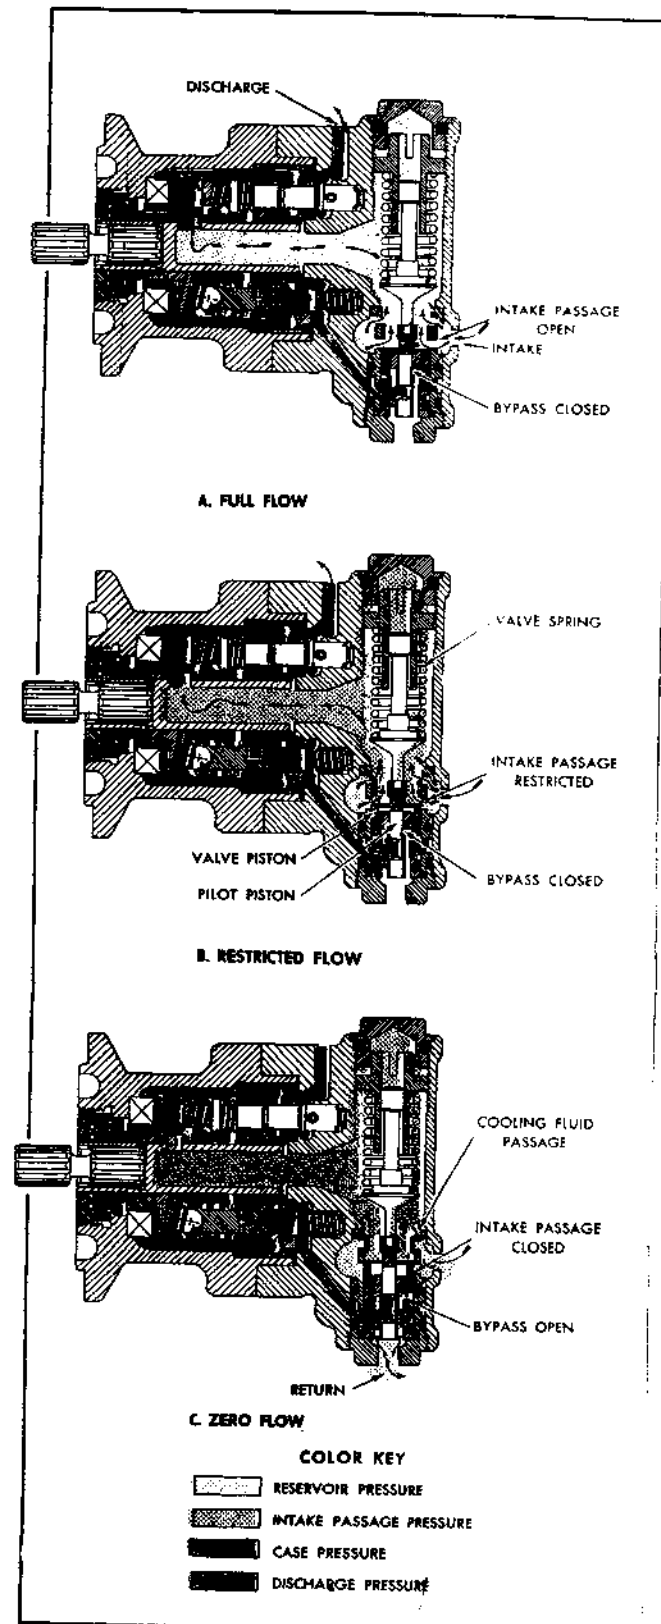

Figure 149 — Hydraulic Pump Flow Diagram
(b) OPERATION. (See figure 149.) — Nine spring-loaded pistons (21) arranged in a cylinder block (20) concentric with the drive shaft (2) are actuated by a wedge-shaped drive cam (4). The piston bearing against the thin section of the drive cam is fully extended, and the piston bearing against the thick section of the drive cam is fully depressed. As the drive cam rotates, the pistons are alternately extended and depressed as the thin or thick section of the drive cam passes each cylinder.